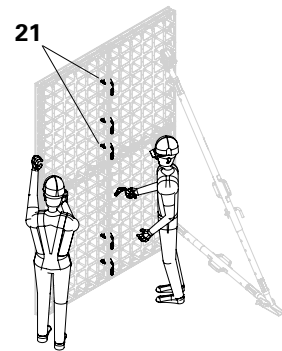

Fig. B1.06
6. Connect both panel units at the vertical joint using DUO couplers (21). (Fig. B1.06)